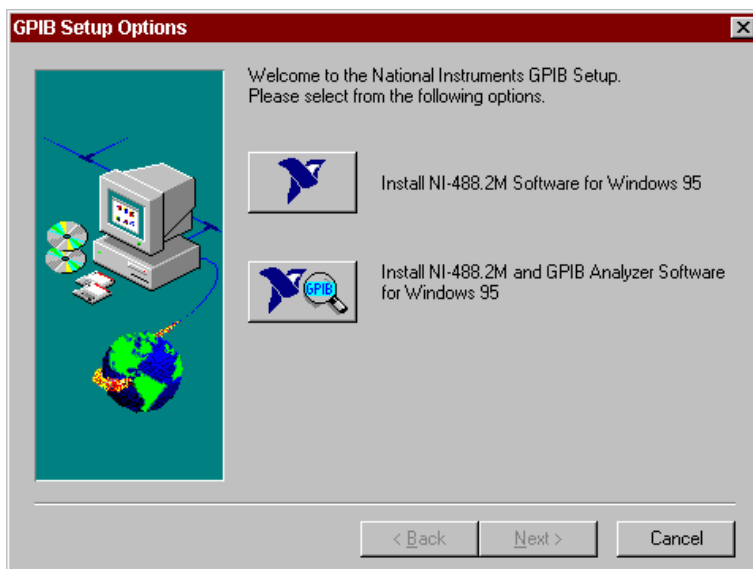

Figure 2-2. GPIB Software Setup Screen
5. The software installation wizard begins with the screen shown in Figure 2-2. Click the first option. The second option does not apply to the software for the Non Plug and Play GPIB hardware.